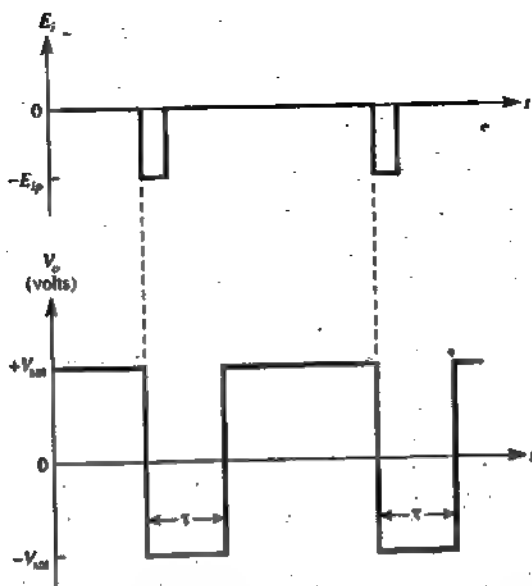

FIGURE 6-3 Input signal E_i and output pulse of a one-shot multivibrator.
A one-shot multivibrator generates a single output pulse in response to an input signal. The length of the output pulse depends only on external components (resistors and capacitors) connected to the op amp. As shown in Fig. 6-3, the one-shot generates a single output pulse on the negative-going edge of E_i . The duration of the input pulse can be longer or shorter than the expected output pulse. The duration of the output pulse is represented by τ in Fig. 6-3. Since τ can be changed only by changing resistors or capacitors, the one-shot can be considered a pulse stretcher. This is because the width of the pulse can be longer than the input pulse. Moreover, the one-shot introduces an idea of an adjustable delay, that is, the delay between the time when E_i goes negative and the time for V_o to go positive again. Operation of the one-shot will be studied in three parts: (1) the stable state, (2) transition to the timing state, and (3) the timing state.